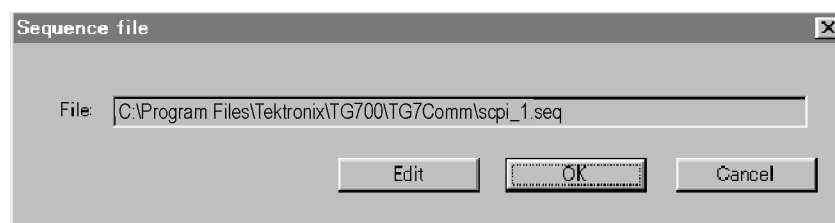

Figure 8: Sequence File dialog box
3. In the PC to TG Download dialog box, select the file on the PC that you want to download and the type of file (*.seq), and then click the **Download** button to open the Sequence File dialog box. (See Figure 8.)